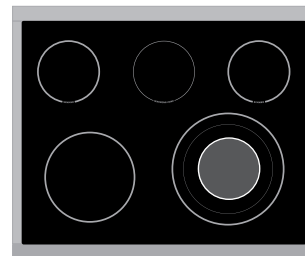

Figure 3 - Heating with inner portion only*
2. Push in and turn the surface control knob clockwise to begin heating all, the inner, middle and outer portions of the element (Marked triple - see figure 1). If the two inner heating portions are needed turn the knob at position marked dual (Marked dual - see figure 2). If only inner heating portion is needed for smaller cookware, push in and turn the knob counterclockwise (Marked inner - see figure 3).